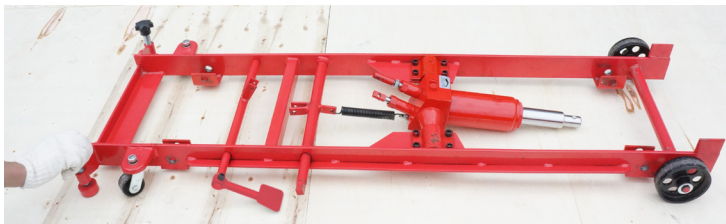

Fig. 2
2. Place the Base Plate (28) on the ground, and turn the knob of Support Foot (7) clockwise to raise Caster wheel end (11) off the ground (prevent Base Plate movement during assembly) (Fig.2)